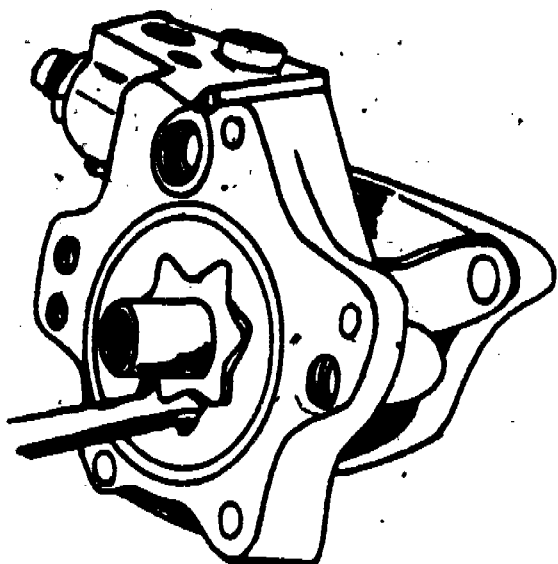
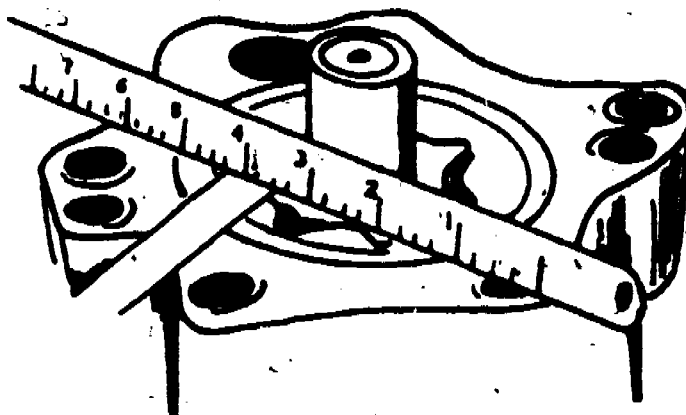

Figure 1
Figure 2
- STEP 11. After the rotors have been nested in the pump body, tooth clearance should be checked with a feeler gauge as shown in Figure 1 (next page). If the clearance exceeds 0.008 inch, the rotors should be replaced with a new set. The rotor end clearance should be checked as shown in Figure 2 (next page). The rotors should be replaced if this clearance exceeds 0.0025 inch.